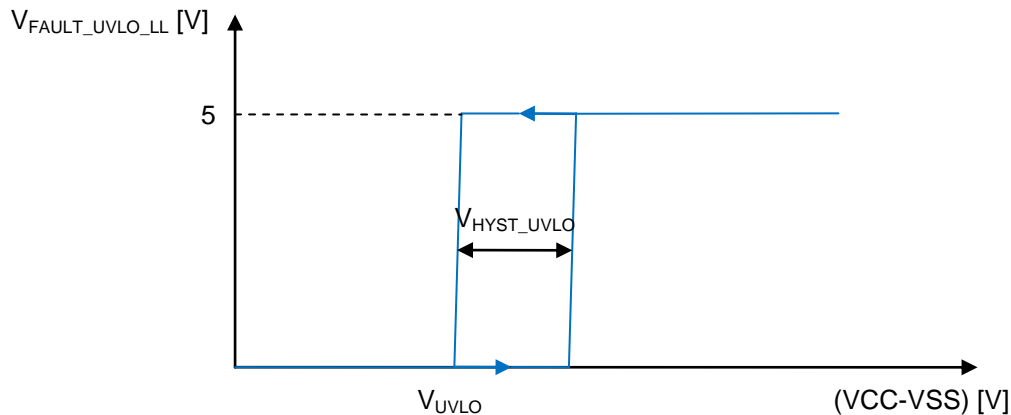

Figure 12. UVLO threshold and hysteresis definition.
- Then, compute R_{HYST} with the desired V_{HYST_UVLO} (see Figure 12 for the definition of V_{HYST_UVLO}):